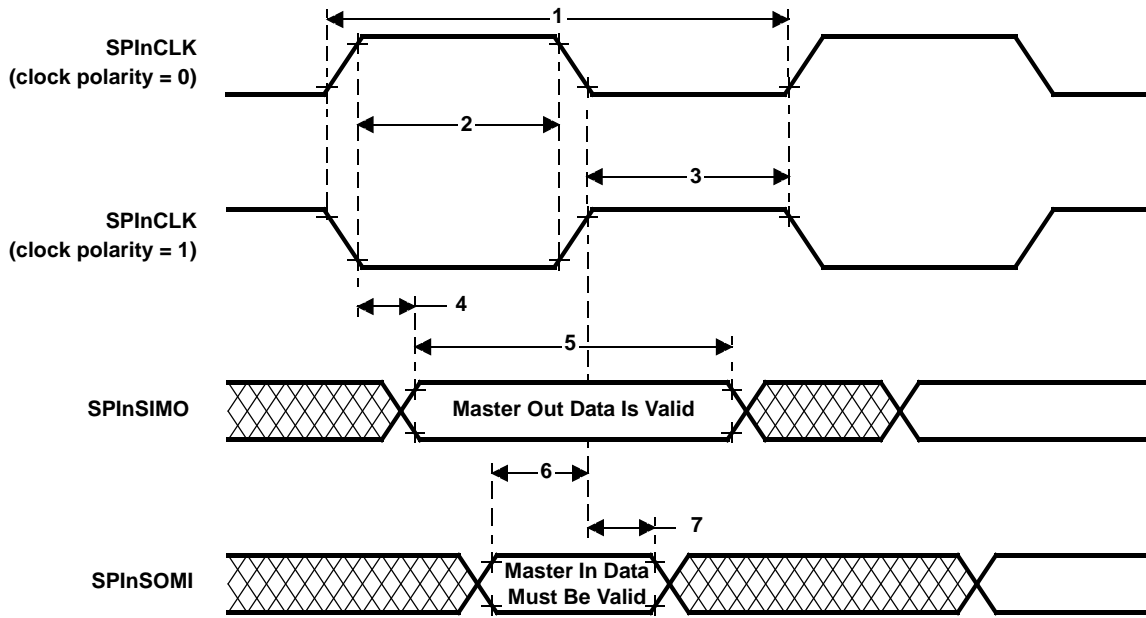

Figure 12. SPIn Master Mode External Timing (CLOCK PHASE = 0)
**SPI master mode external timing parameters (CLOCK PHASE = 0, SPInCLK = output, SPInSIMO = output, and SPInSOMI = input)(1)(2)(3)(see Figure 12)**